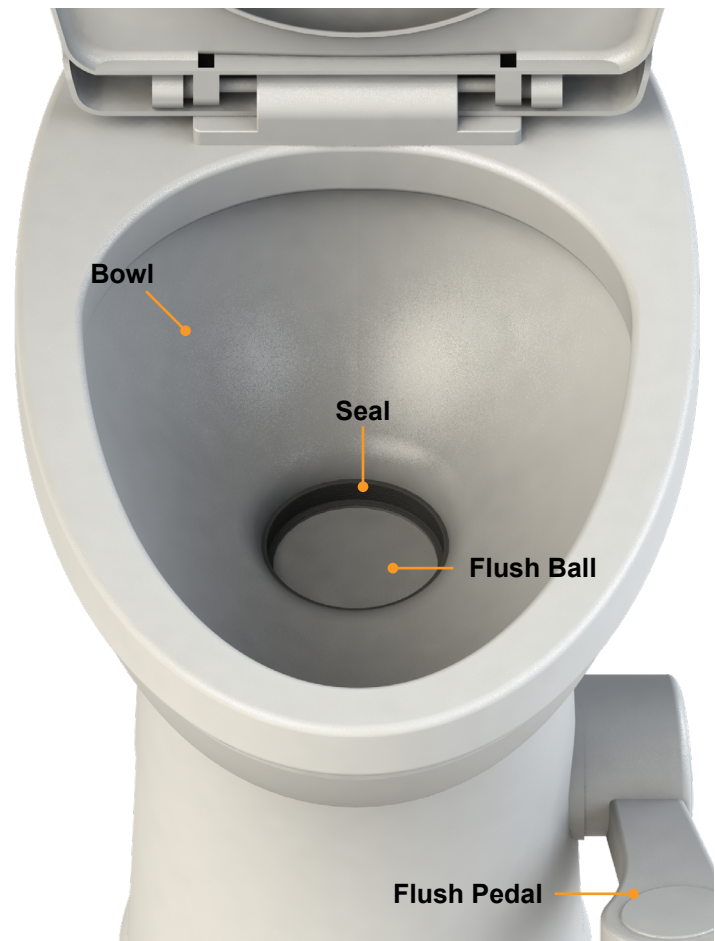

Fig.9
1. Remove minor debris from the flush ball and seal (Fig.9) by slowly depressing and releasing the flush pedal several times. This will loosen and rinse debris from the surfaces. Repeat several times for stubborn build-up.